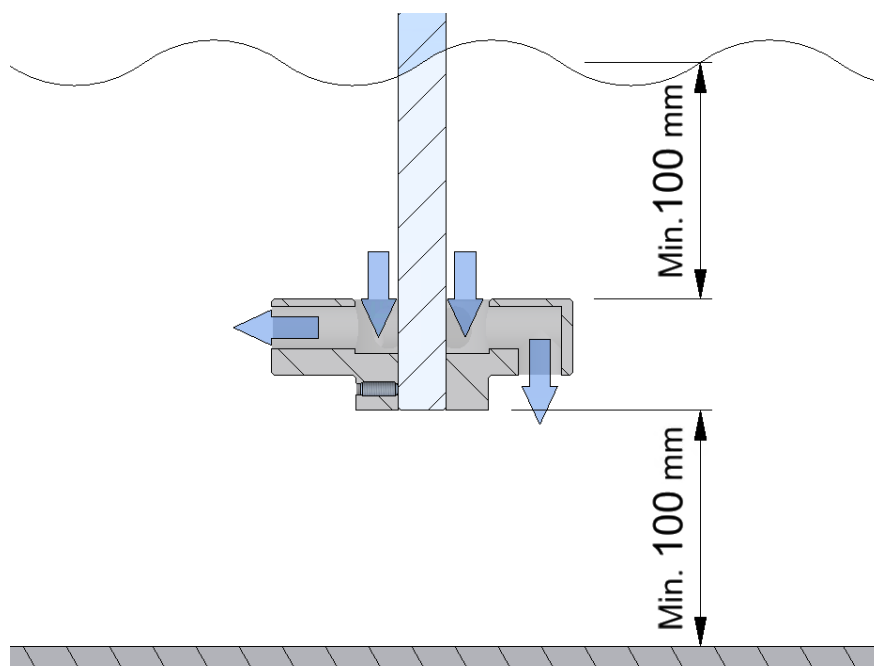
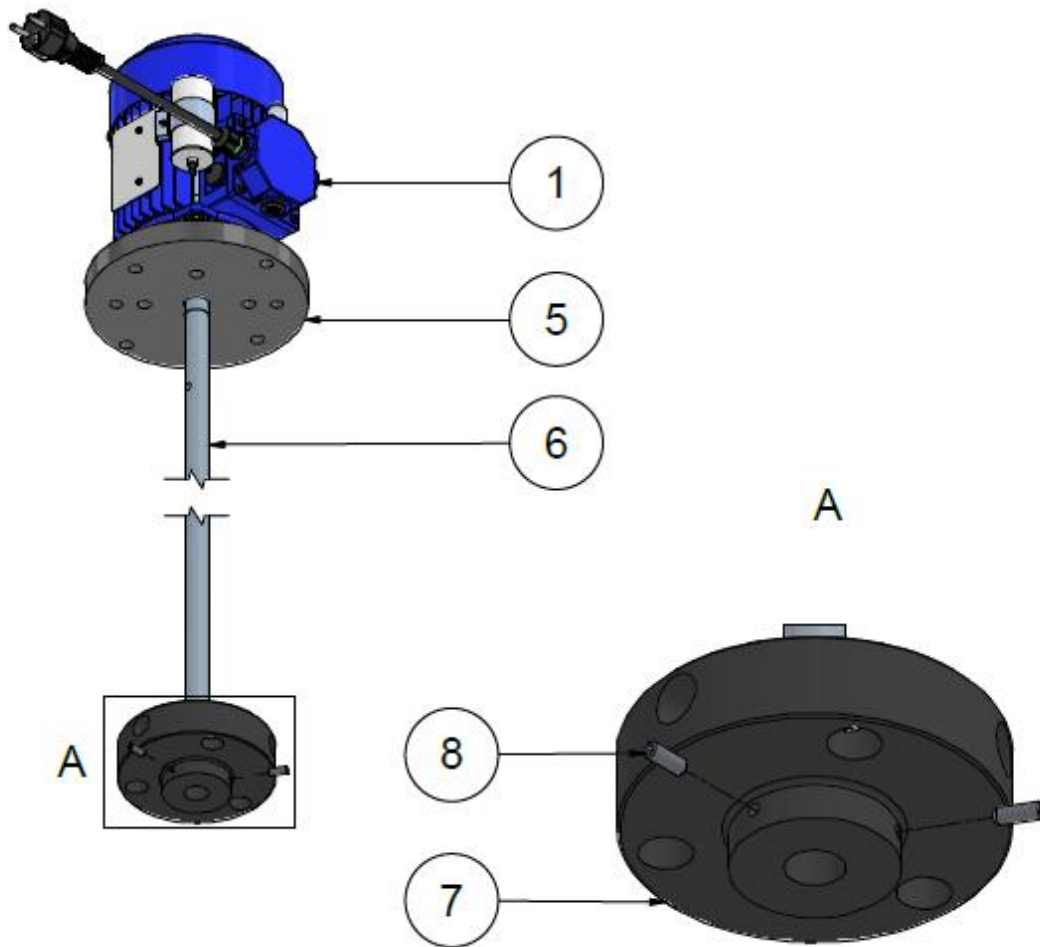

Figure 3 Position of the mixing disc
Figure 4 Assembly of the Enmix light
The rotation of the mixer shaft and the mixing disc sets the liquid in the reservoir in motion. The mixing disc takes in the liquid from above and then sends the liquid downwards and to the side via the channels in the mixing disc. In the disc there are 3 channels towards the bottom of the disc and 3 channels directly to the side of the mixing disc. This causes the liquid to move as shown in Figure 3. The standard direction of rotation of the mixing disc is clockwise (viewed from above).
the numbers between parentheses referring to the numbers and parts in Figure 4.
- Measure the depth. from the surface where the mounting plate (5) is assembled to, to the bottom of the reservoir.
- Shorten the shaft (6), if necessary, and ensure that the mixing disc (7) is as deep as possible and at least 100 mm above the bottom of the fluid reservoir.
- The shaft (6) can be shortened using a hacksaw or cutting disc.
- Insert the shaft (6) through the opening in the mixing disc (7).
- Please note that the suction side is facing to the top (see Figure 4).
- Fix the mixing disc (7) to the shaft (6) using two stainless steel set screws m6x16 (8).
- Attach the mounting plate (5) to the reservoir or a structure above this.
- Ensure the mixing disc rotates +/- 100 mm from the bottom of fluid reservoir (see Figure 3)
- Assemble the mixing disc following Figure 3 and Figure 4. If the assembly of the mixing disc is done in the wrong way, the fluid can be sprayed upwards. This could create dangerous situations.